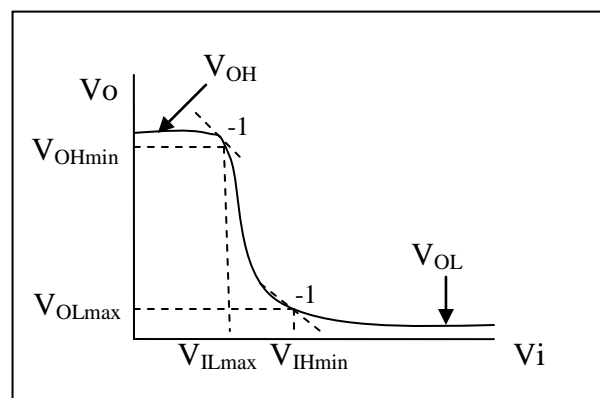

Figure 1. Transfer curve of an inverter.
- When doing so, you should see the CMOS inverter transfer curve, where you can measure the voltage parameters. Figure 1 shows the shape of a generic inverter transfer curve.